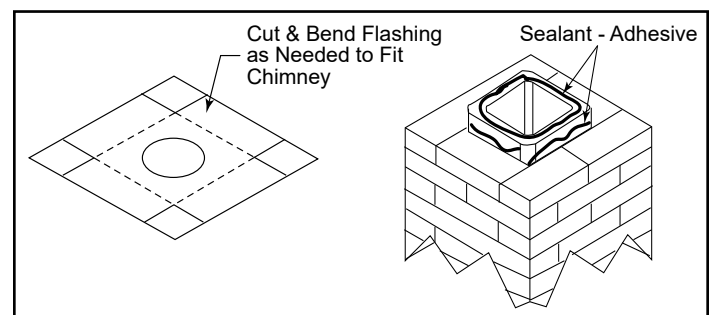

Figure 3.49
3. Secure the flashing (705C) to the top of the masonry chimney using a bead of non-hardening sealant-adhesive. If the flashing is larger than the top of the chimney, then cut and fold flashing as needed to fit chimney, Figure 3.49.